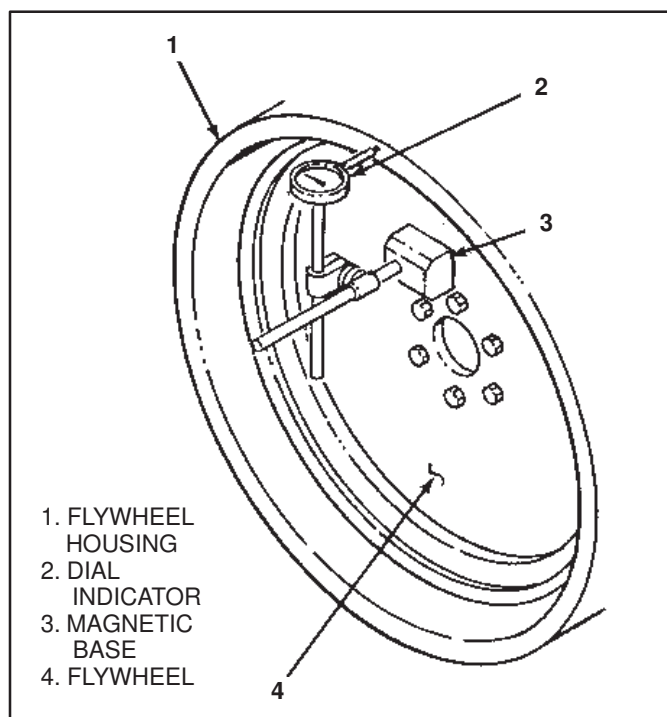

Figure B-1. Housing Face Deviation
1. To check the flywheel housing bore eccentricity and face deviation, securely clamp (or use magnetic base) base of dial indicator on engine flywheel, Figure B-1.